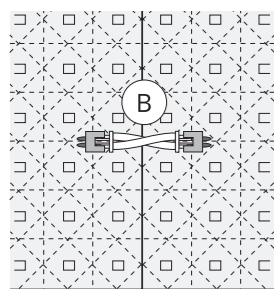
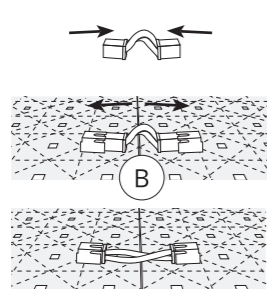

Figure 1
Figure 2
**Short sheet-to-sheet connectors (B):** When adjacent Auragami Light Sheets are mounted side-by-side with connection blocks aligned, the shorter sheet-to-sheet connection wires (B) should be used to interconnect multiple sheets. Their lengths are optimized so sheets align snugly. See Figure 1. When connecting Light Sheets that are already mounted to a fixed surface, the short connection wires (B) will need to be shaped as shown in Figure 2 prior to pushing into connection blocks. Best practices include using two sheet-to-sheet connection wires for all adjacent Light Sheets in each Class 2 circuit to minimize voltage drop. Dry-fit test for proper illumination prior to mounting Light Sheets to the mounting surface and again before the forward facing material is installed.